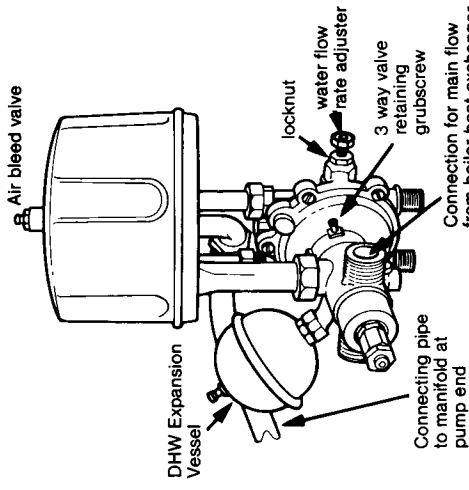

Fig. 39
- Refer to figs 39, 40 and 41
- 8.16.9 Disconnect 4 union nuts (fig. 39).
- Refer to figs. 39 & 40